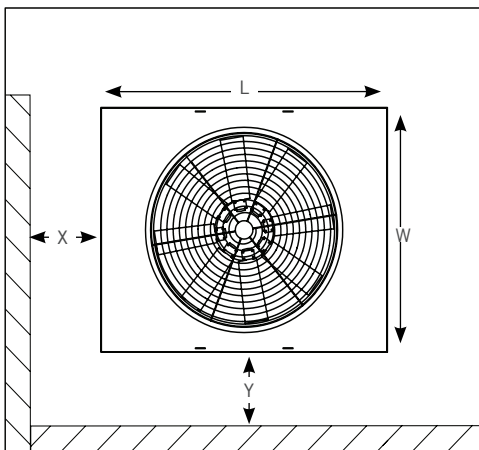
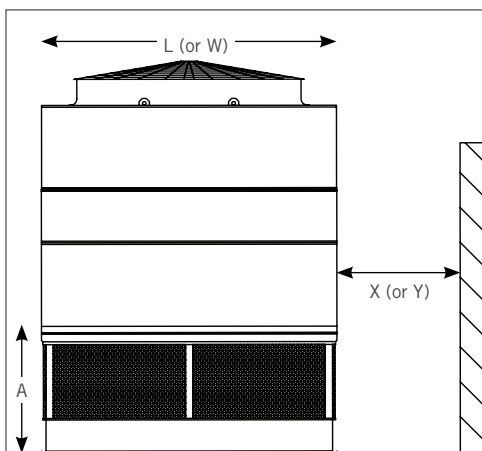

Figure 2. Plan View of PT2, PFi, or PCC Unit Adjacent to One or More Walls
Figure 3. Section View of a PT2, PFi, or PCC Unit Adjacent to Wall
Should it be necessary to install a unit adjacent to a building or wall(s), provide at least distance “X” or “Y” between the air intake and the wall, as illustrated in **Figures 2** and **Figure 3**.
2. For a plan view of a one cell PT2 arrangement and a plan view of a PFI-0406A, PFI-0412A, PFI-0709A, PFI-1212A, and PFI-1218A refer to **Figure 2** on **Page J110**. For plan views of all other configurations, see **Page J111**.
2. For a plan view of a PCC-x-0406x, PCC-x-0412x, PCC-x-0709-x, PCC-x-1212x, PCC-x-1218x, and PCC-x-1220x refer to **Figure 2** on **Page J110**. For plan views of all other configurations, see **Page J111**.